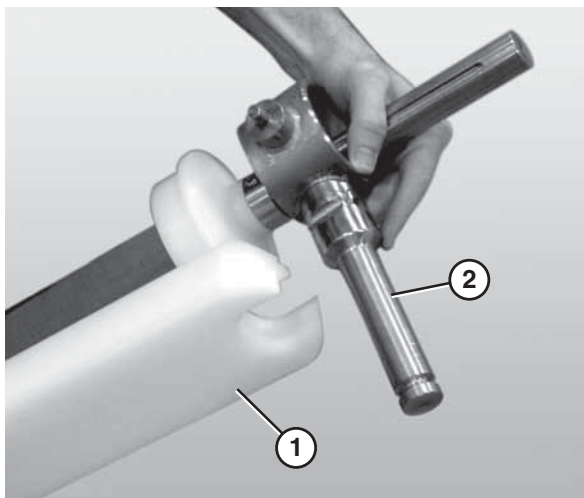

Figure 77
6. Attach the guard bar (**Figure 77, item 1**) to the bearing / motor mount bracket shafts (**Figure 77, item 2**).